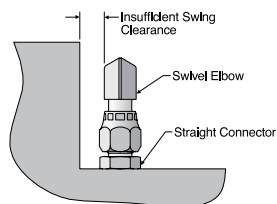
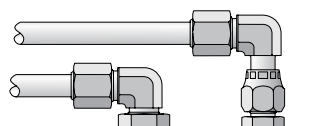

Fig. S60 — Swivel nut fitting used with straight connector in tight space
Fig. S61 — Swivel end fitting with straight connector provides clearance above regular elbow
2. Swivel nut fitting should be used with a straight connector to allow for connections in tight spaces, where an elbow or tee fitting cannot be fully rotated (see Fig. S60).
This same combination of fittings, shown in Fig. S60, can also be used to stack tube lines or provide clearance for ports that are relatively close and within the same plane (see Fig. S61).